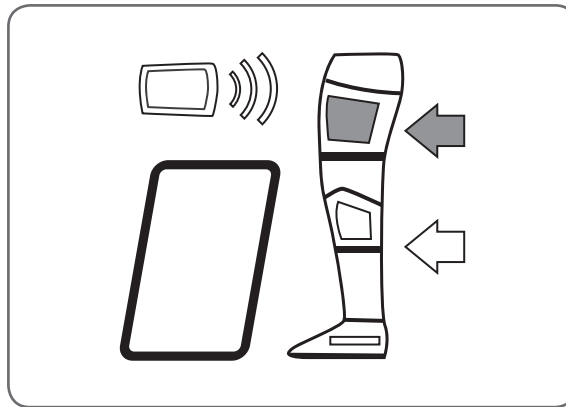

Figure 42: Thigh RF Stim Unit selected.
1. Press the  "up" button to select the Thigh RF Stim Unit. The Thigh RF Stim Unit indicator and the arrow next to the Thigh RF Stim Unit indicator will light GREEN to confirm the selection. See Figure 42.